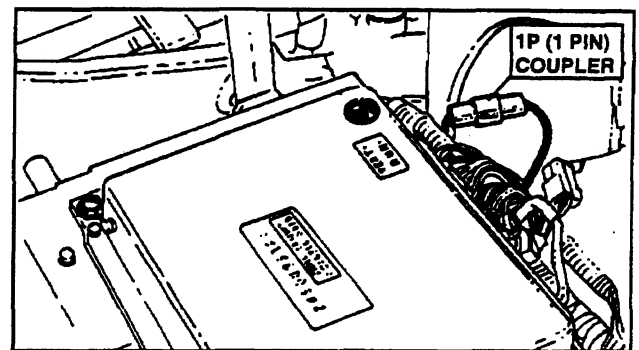

FIGURE 6.29
8. Locate and disconnect CPU 1P (1Pin) coupler. Connect Special Adjustment Harness to 1P coupler. See Figure 6.29.